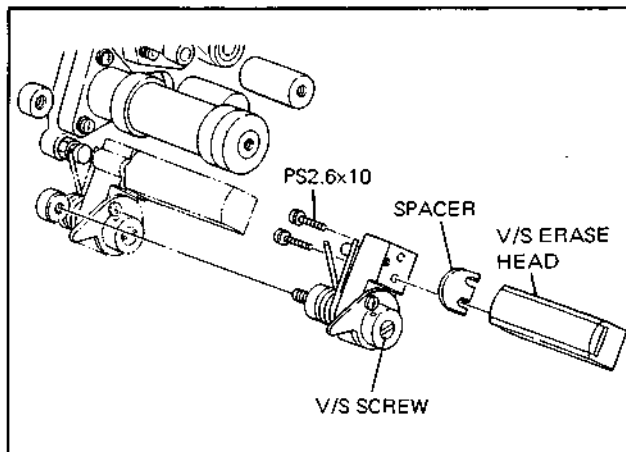

Fig. 3-101. V/S Erase Head Height Adjustment
7. Mount V/S erase head assy referring to Fig. 3-101, and check the height of V/S erase head by performing Steps 1 to 4 again.